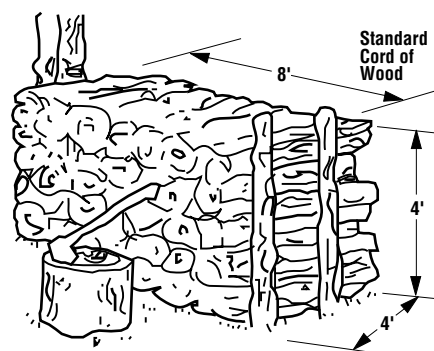

Figure 1
8. Be a knowledgeable wood buyer. There is a difference in cord sizes. A standard cord stack of logs is 4 ft. high by 8 ft. long by 4 ft. deep or the equivalent of this cubic footage, (Figure 1).